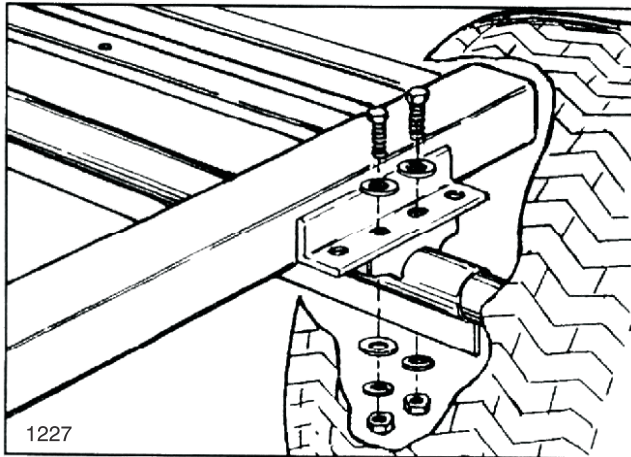

FIG. 1
1. Mount the Rear Axle and Tire Assembly to the Skid Frame as shown in FIG. 1, using two (2) 3/8" x 1-1/4" hex hd. cap screws, lock washer, hex nuts and four (4) flat washer on each side of the Skid. Torque to 30 ft. lbs.